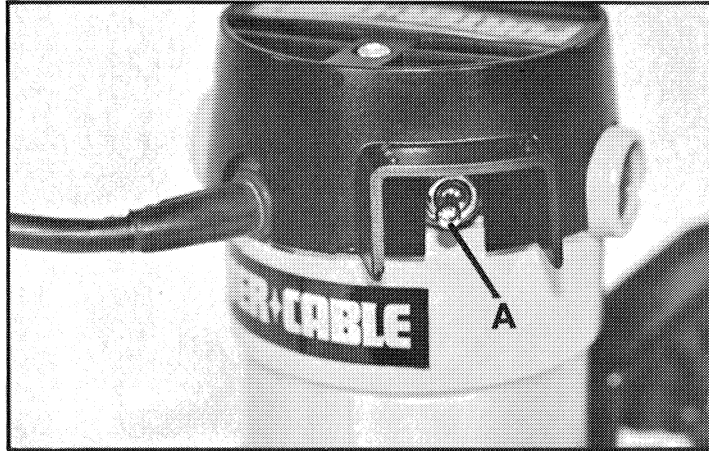

Fig. 9
When using the base with two guide knobs, as shown in Fig. 9, the motor is started and stopped by setting the toggle switch (A) in the ON or OFF position.